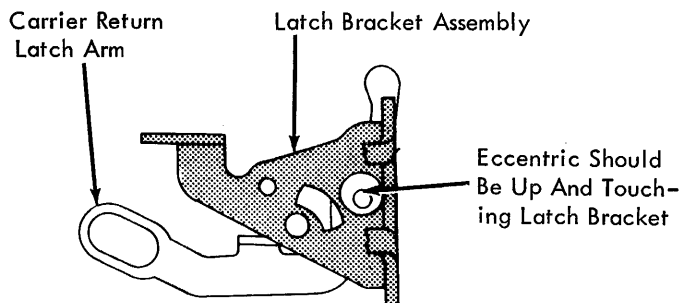

FIGURE 150. Pivot Pin Eccentric (Early Level Machines Only)
5. Pivot Pin Eccentric (found on early level machines only) The eccentric collar should be adjusted with the high point up so that it just touches the operational latch bracket (Fig. 150). This prevents the pivot pin from bowing during a print escapement operation. On long carriage machines the eccentric should also be adjusted laterally on the pivot pin so that the end play of the pivot pin will be .002" to .005".